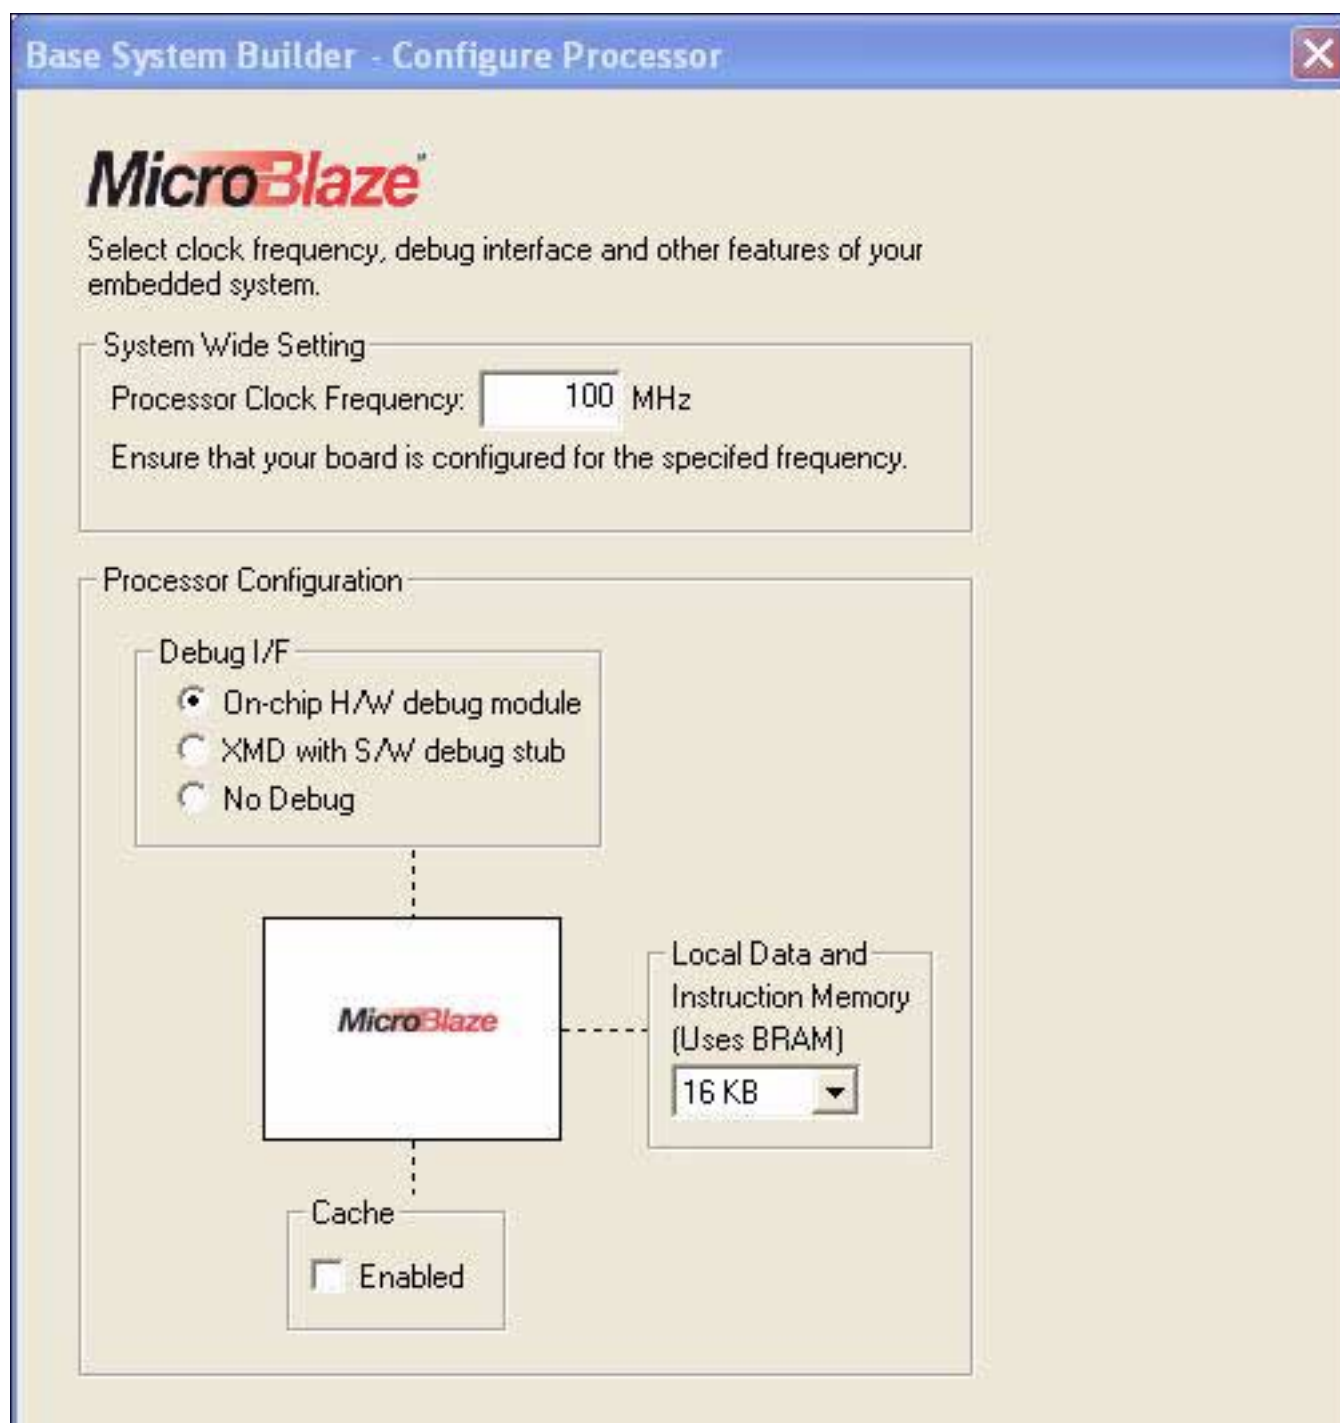

Figure 6: **Configure Processor**
3. Click **Next**. You will now specify several processor options as shown in figure 6:
4. The following is an explanation of the setting specified in figure 6: